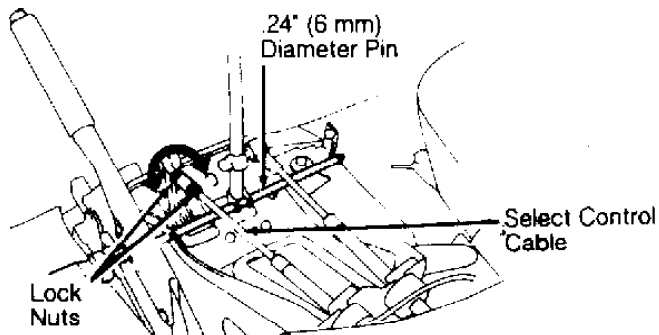

Fig. 3: Adjusting Van Shift Lever Neutral Position
- 2) To adjust shift lever Neutral position, loosen adjusting lock nuts on select control cable. See Fig. 3. Adjust length of select control cable so that guide pin inserts smoothly into all holes.